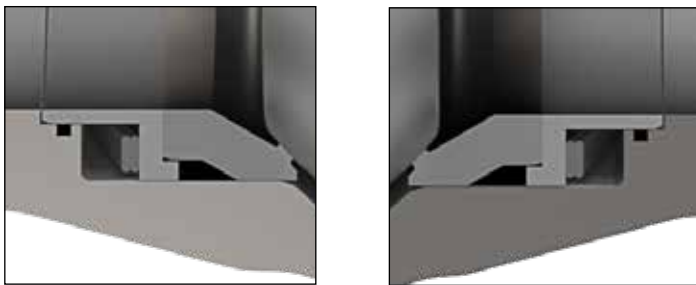

Figure 1b
4. Insert Wave Springs (#29) into seat pockets of Body (#1), See Fig. 1b
5. Insert S-Ring (#26) into Body (#1) over Wave spring (#29). Keep orientation of S-ring as shown in Fig. 1b
7. Insert conical Seal ring (#27) on the "A-Seat" (#6). Insert "A-Seat" along with conical Seal ring into the Body (#1). Keep the flat face of conical Seal ring towards S-ring (#26) as shown in Fig.1b
15. Insert Wave Springs (#29) into seat pockets of Tail (#2), See Fig. 1b
16. Insert S-Ring (#26) into Tail (#2) over Wave spring (#29). Keep orientation of S-ring as shown in Fig. 1b
18. Insert conical Seal ring (#27) on the "B-Seat" (#6). Insert "B-Seat" along with conical seal ring into the Tail (#2). Keep the flat face of conical seal ring towards S-ring (#26) as shown in Fig.1b